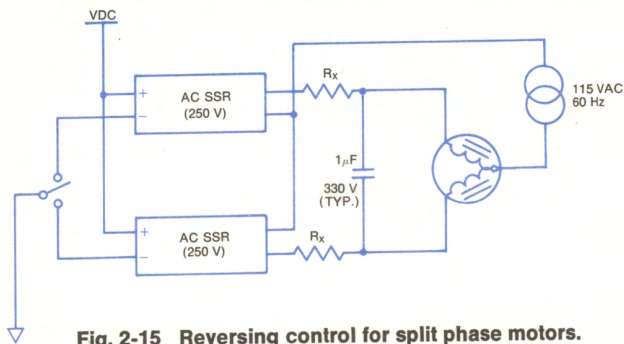

Fig. 2-15 Reversing control for split phase motors.
2.6.1 Reversing Control for Split Phase Motors (Fig. 2-15)